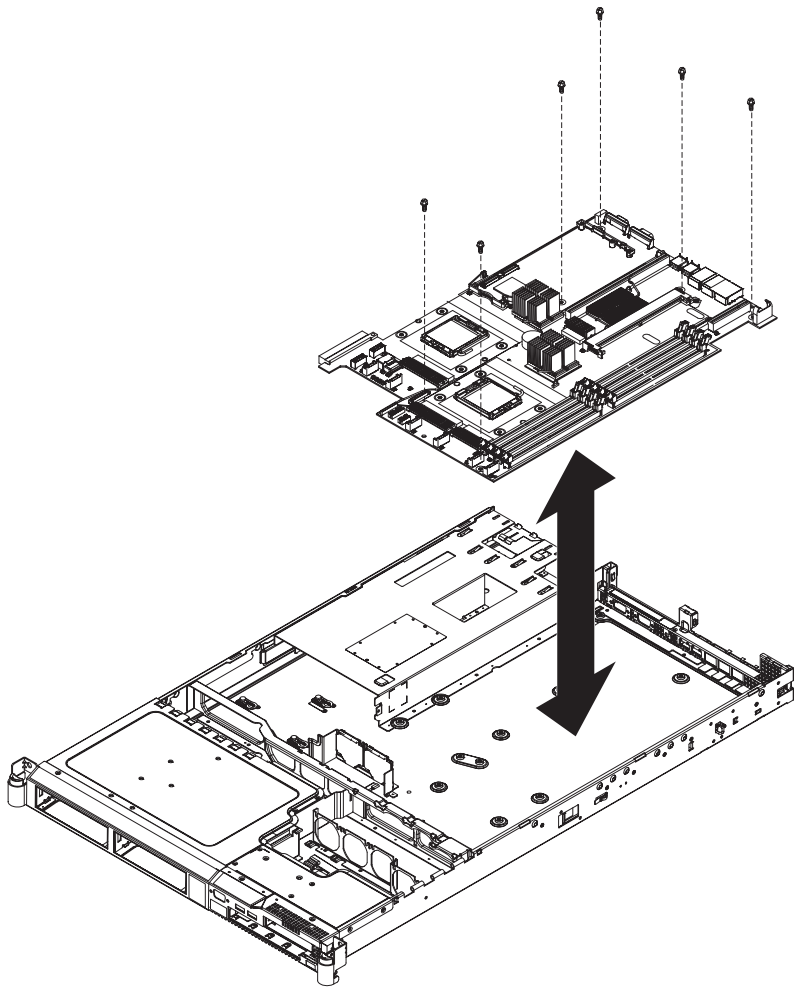

Figure 294. The placement of the screws that secure the SAN Volume Controller 2145-8G4 system board
2. Replace the six screws on the system board, as shown in Figure 294 on page 295, to secure the system board to the chassis.